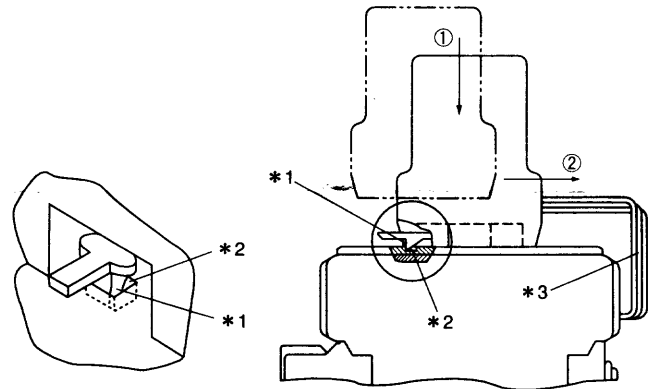

Figure 1
**2.1 Front-mounting Type (Figure 1)**